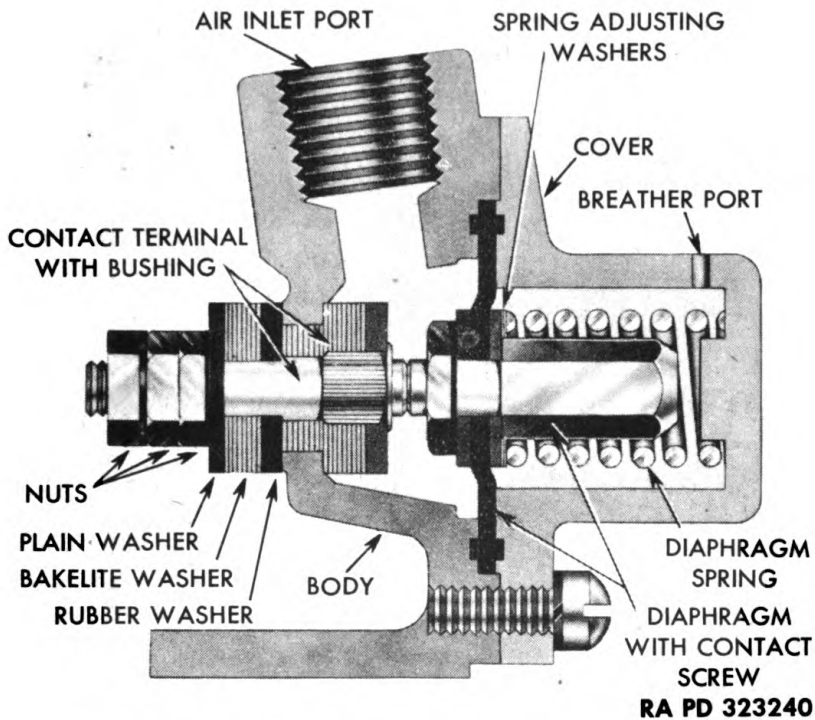

Figure 245 — Cross-section of Low Pressure Indicator
b. **Operation** (fig. 245). The inlet port in the low pressure indicator switch is exposed to the same air pressure as is stored in the two air reservoir tanks. This air pressure is exerted on the contact point